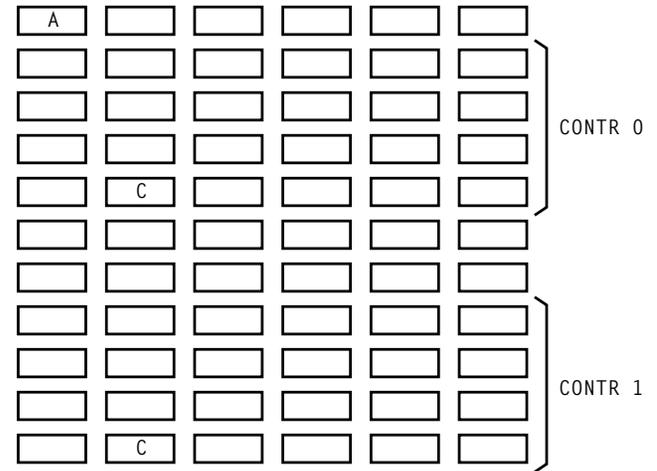

Figure 1 - SCLK Critical Registers
2. Identify oscillator using bits 0, 1, and 2 of word C and TABLE A [Figure 1]